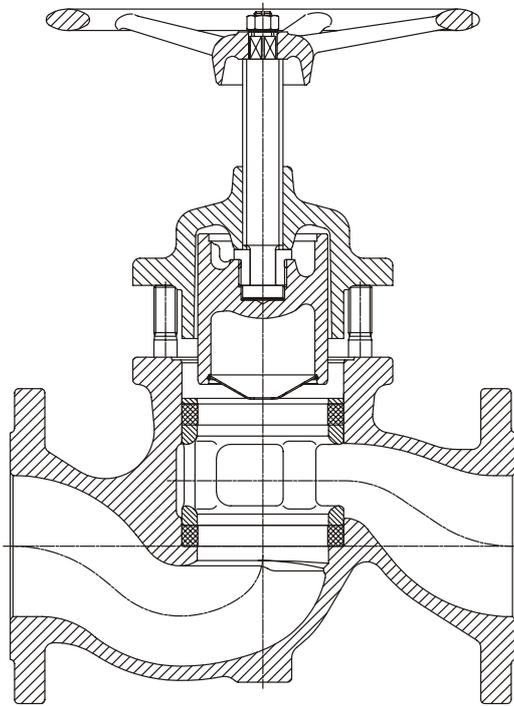

Fig.2
- *Turn bonnet (Pos.2) slightly until the flange rests against the stud bolt face (Pos.19) and turn hand wheel anti-clockwise (opening direction) until piston (Pos.4) is completely free of valve ring (Pos.14), (see Page 10 Fig.2)*